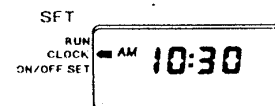

Fig. 3
- Use the ADJUST buttons (+ or -) to alter the display to the correct time of day, making sure that the AM/PM symbol is also correct (see figure 3).